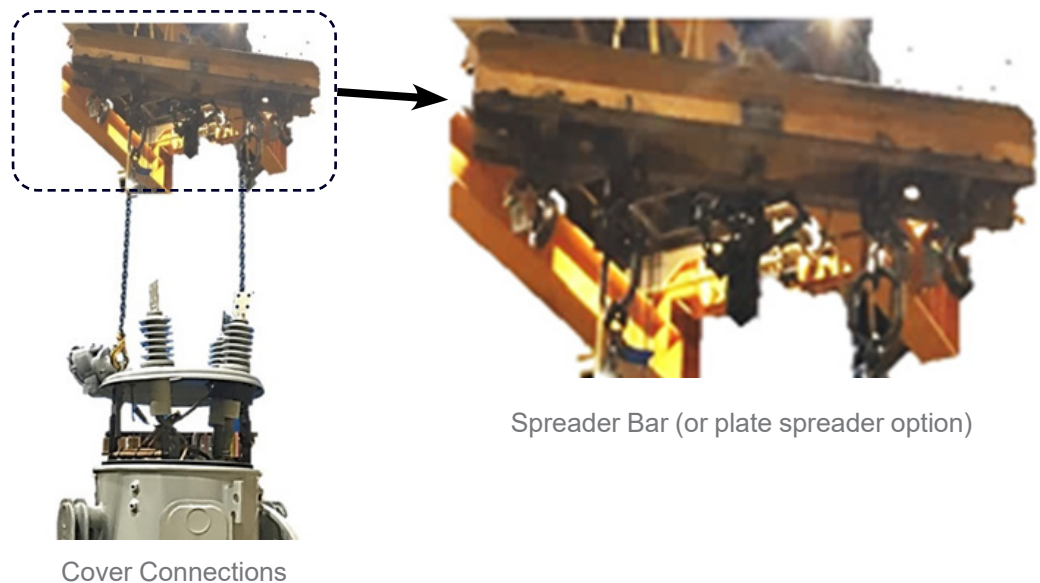

Figure 13. Recommended Un-tanking Type VR-1 Step Voltage Regulator, showing use of Tank Spreader Bar when lifting Interior & Cover.
3. Lift the cover-suspended regulator from tank, using the lifting eyes on the top of the cover. The use of a spreader bar is recommended. See Figure 13.